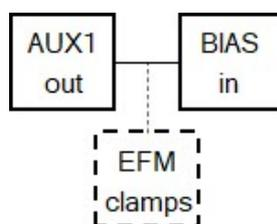

Figure 1: Wiring diagram
- Make sure BIAS-in connector of the alphaControl electronics is connected with AUX1-out via a BNC cable (Figure 1).
- If you want to use the EFM-clamps, connect them over a T-piece adapter with BIAS-in and AUX1-out (Figure 1).